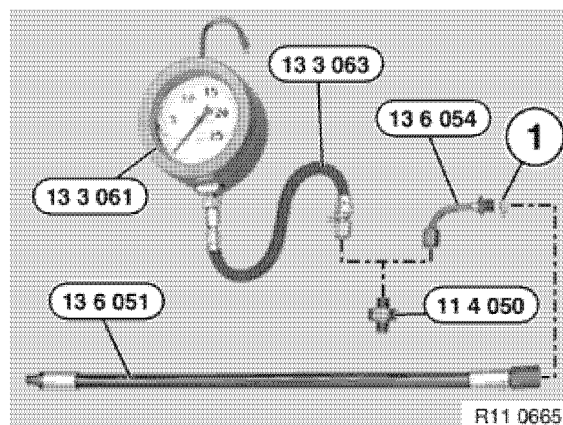

Figure 8-4
*Note: Special tools OEM No. 13 6 054 and 13 6 051, and O-ring (1, **Figure 8-4**) are used with a DIS Tester.*
7. Connect test pressure gauge (**Figure 8-4**) special tool OEM No. 13 3 063 and 13 3 061.